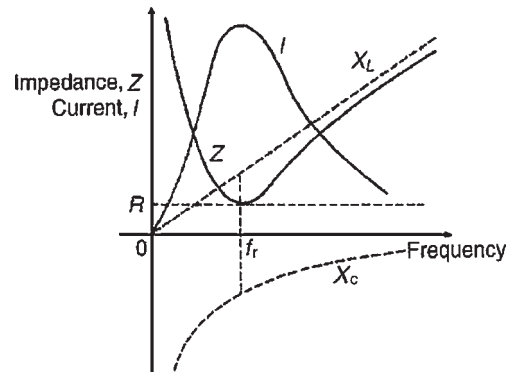

Figure 15.21
- Typical graphs of current I and impedance Z against frequency are shown in Fig. 15.21